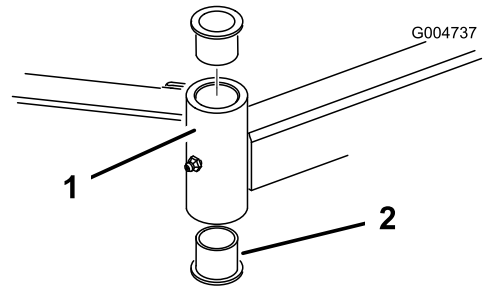

Figure 27
4. Insert a pin punch into the top or bottom of the mounting tube and drive the bushing out of the tube (Figure 27). Also, drive the other bushing out of the tube. Clean the inside of the tubes to remove dirt.